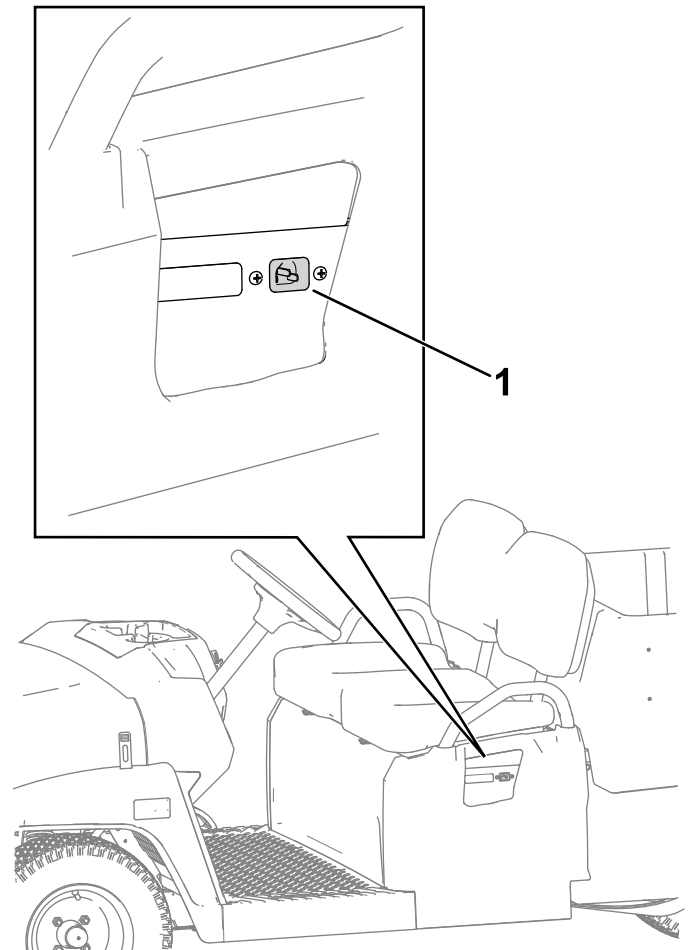

Figure 27
1. Plug the power-supply cord into the machine charger outlet (Figure 27).